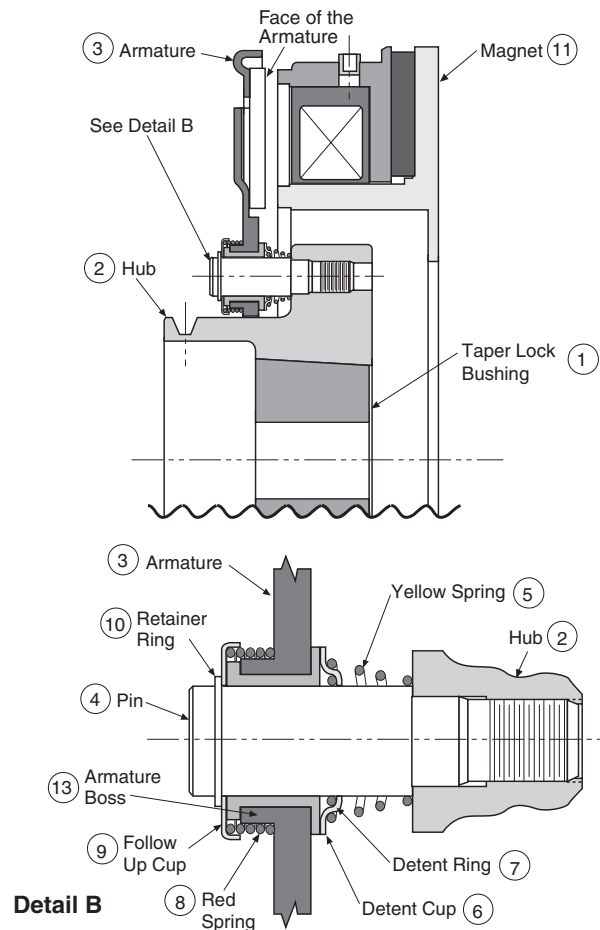

Figure 3
Kit Parts List - See Figure 3
Step 4: Slide the previously saved armature (item 3) onto the pins, and **gently** push down on the armature towards the hub (item 2) until it bottoms out.
Step 5: Assemble each new red straight spring (item 8) onto each armature boss (item 13) as shown in Figure 3, Detail B.
Step 6: Assemble each new follow up cup (item 9) over the pin and over the red spring (item 8) as shown in Figure 3, Detail B.
WARNING Keep fingers clear of the area between the magnet (item 11) and the armature (item 3) as the armature will be pulled sharply toward the magnet after the gap between them is closed to approximately 1/8 inch. See Figure 3. Injury can result if fingers are pinched between the armature and magnet.